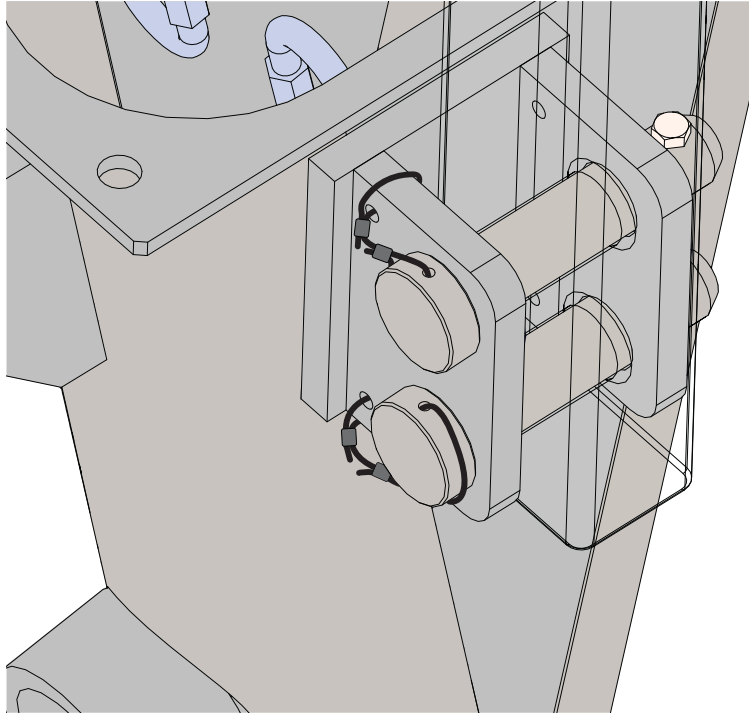

Figure 6: Safety securement for pins
1. Install safety securement for pins as shown in Figure 6.